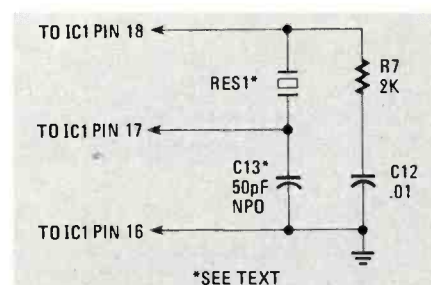
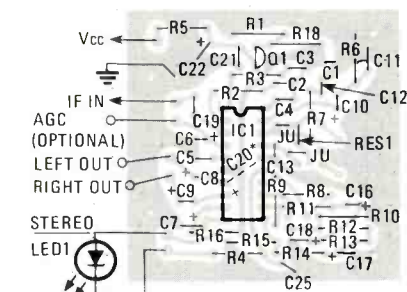

FIG. 6—THE OSCILLATOR CIRCUIT shown here needs an input IF of 450 kHz.
FIG. 7—THE PARTS-PLACEMENT diagram shown here corresponds to the VCO circuit of Fig. 6. Note that C20 is mounted on the foil side of the board.
The requirements of the VCO circuit design are not terribly critical—it must provide a one-volt P-P clean sinewave at 8 times the IF frequency to pin 14 of the MC13020P. One circuit that we can use is shown in Fig. 6. The corresponding parts-placement diagram for the decoder is shown in Fig. 7.
- C13—NPO. See Text and Figs. 6, 8, and 10
The following are available from Circuit Specialists, Box 3047, Scottsdale, AZ 85257: Complete kit, including PC board and all parts (including parts for the VCO circuit as in Fig. 6 only), \$24.95; Circuit board only, \$4.95; Ceramic resonator RES1 with matching NPO capacitor (as in Fig. 6) only, \$3; MC1320P decoder IC, \$3.50. All prices include postage inside the US.